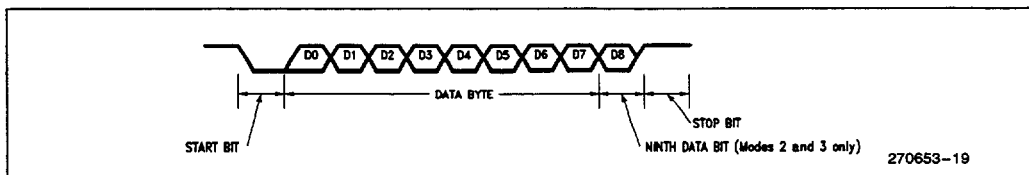

Figure 22. Data Frame: Modes 1, 2 and 3
Mode 2: 11 bits are transmitted (through TXD) or received (through RXD): a start bit (0), 8 data bits (LSB first), a programmable 9th data bit, and a stop bit (1). Refer to Figure 22. On Transmit, the 9th data bit (TB8 in SCON) can be assigned the value of 0 or 1. Or, for example, the parity bit (P in the PSW) could be moved into TB8. On receive, the 9th data bit goes into RB8 in SCON, while the stop bit is ignored. (The validity of the stop bit can be checked with Framing Error Detection.) The baud rate is programmable to either 1/32 or 1/64 the oscillator frequency.